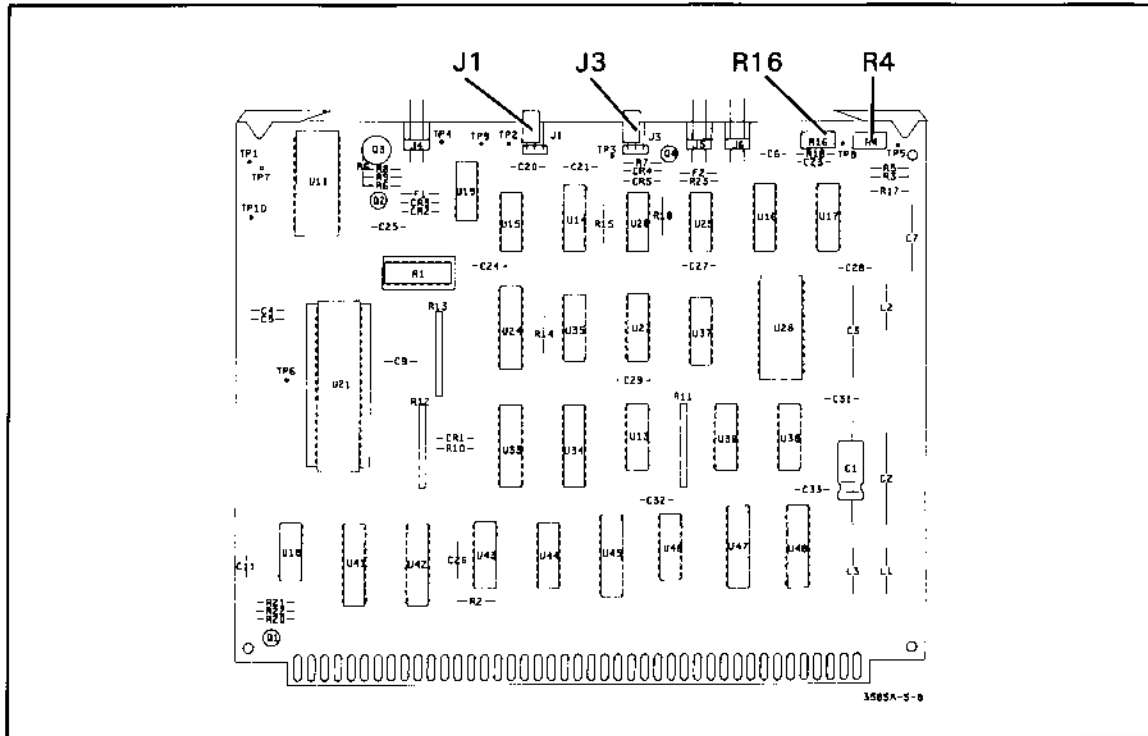

Figure 5-8. Display Processor Board (A63)
- w. Move the test jumper A63J3 to the "T" position (see Figure 5-8). Turn 3585A power on.